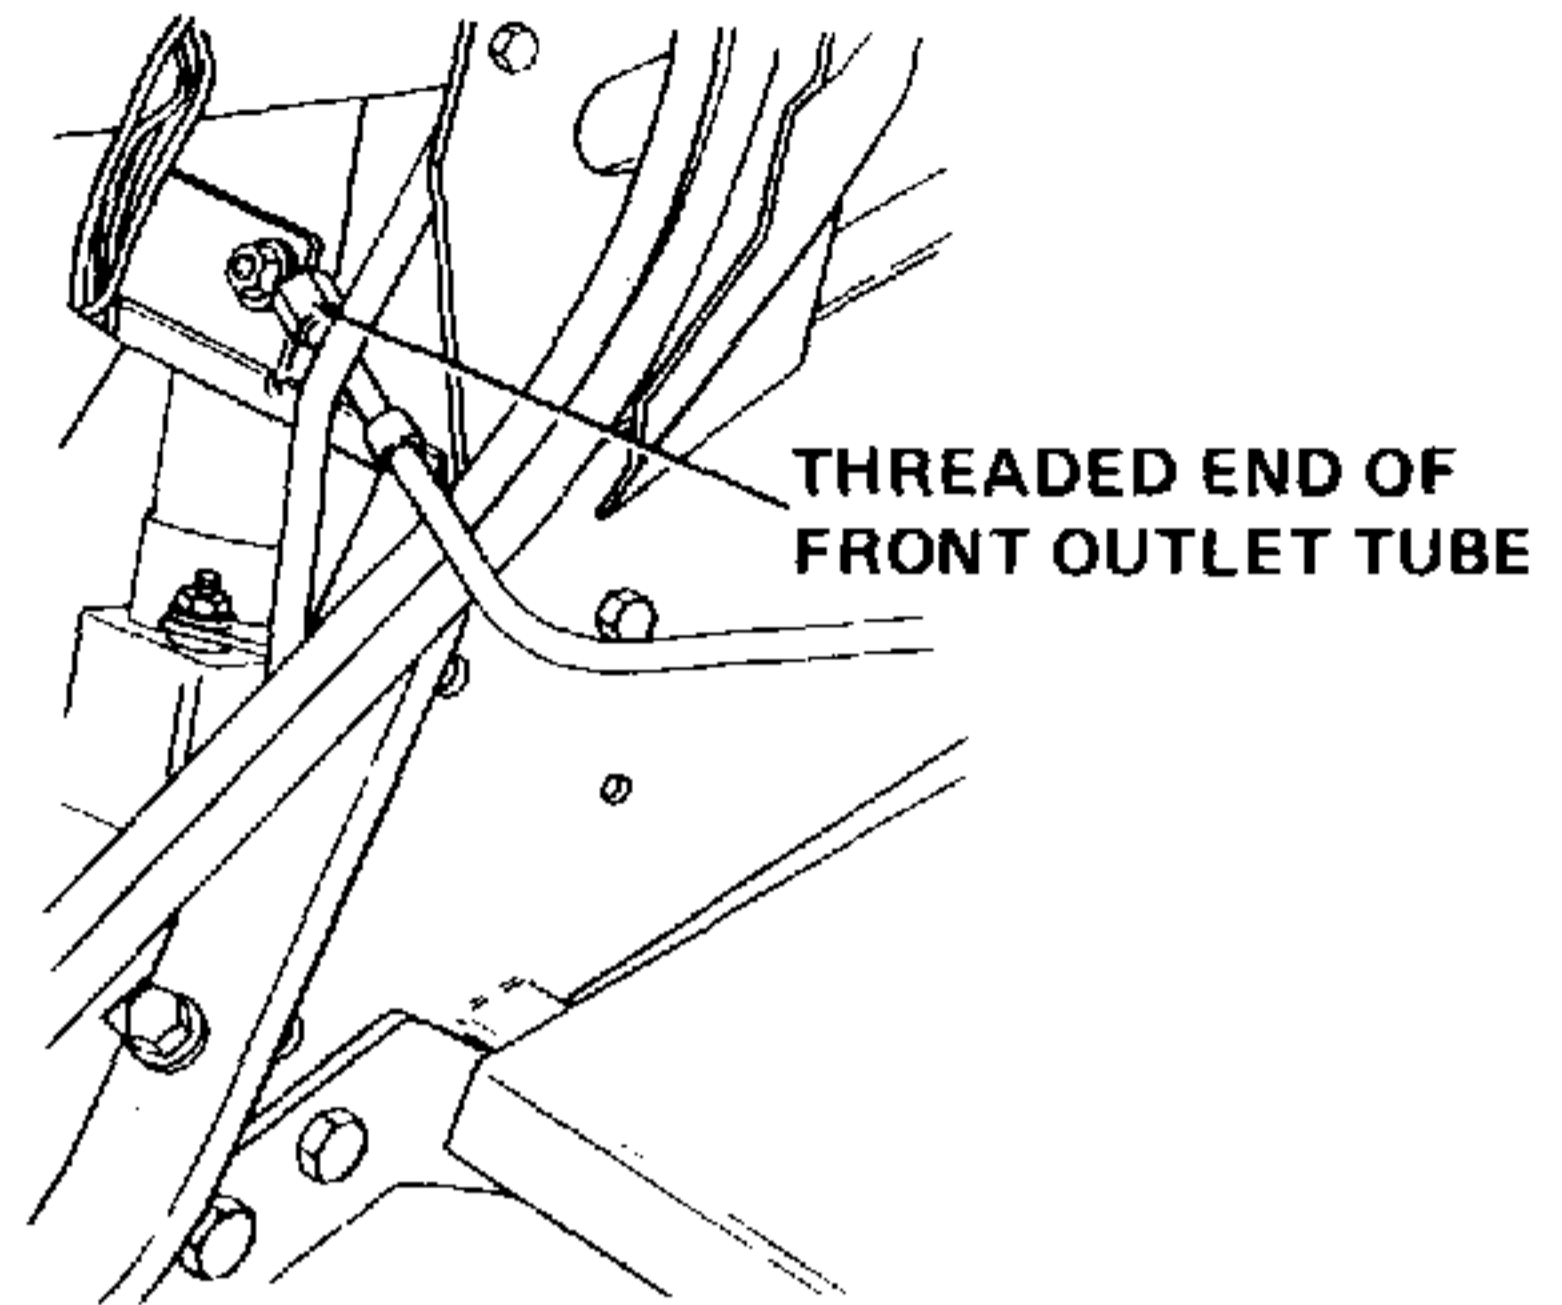

Figure 7-82. Placement of Front Outlet Tube (Models 1541, 1862, 1882 and 2082 Only).
- 2. For tractor Models 1541, 1862, 1882 and 2082 only, install the front outlet tube (12) to hydraulic valve as follows:
- a. Install an O-ring (8) on the end of the outlet tube.
- c. Position the front outlet tube as shown in Figure 7-82 and manipulate the tube across the